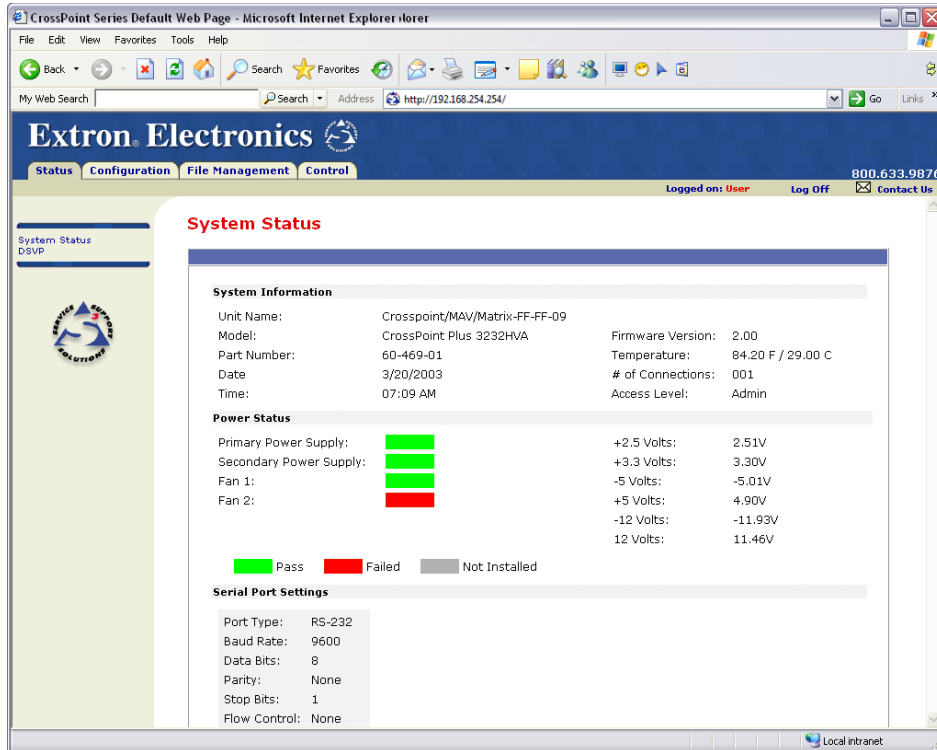

Figure 85. System Status Page
- **If neither of the above conditions is true**, the switcher downloads the factory-installed default startup page, “`nortxe_index.html`” (see **figure 85** on the next page), also known as the System Status page.
The System Status page (see figure 85) provides an overall view of the status of the matrix switcher, including individual voltages, fan operation, and the serial port status. The System Status page is the default page that the switcher downloads when you connect to the switcher. Access the System Status page from other pages by clicking the **Status** tab.